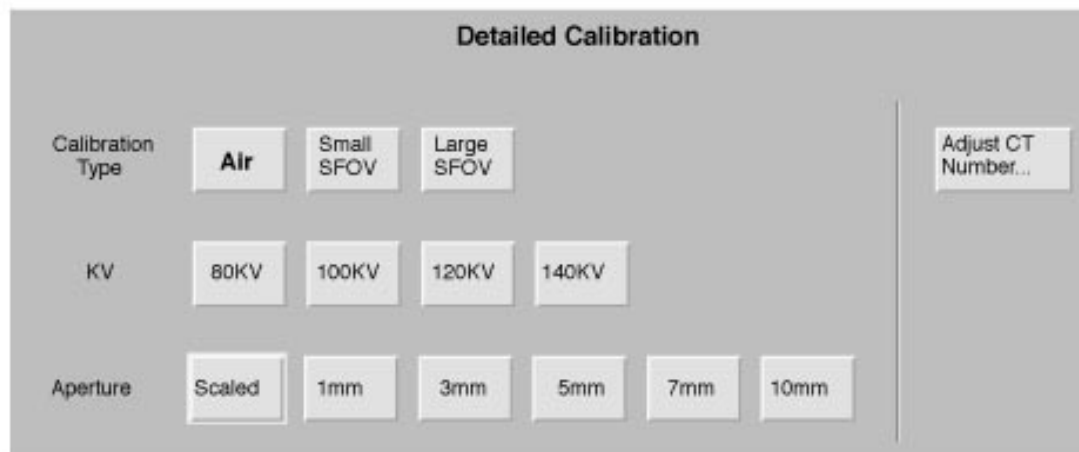

Figure 2-4 Detailed Calibration screen
- 7.) Refer to Figure 2-4. Acquire Air and Phantom Calibrations, with the following parameters: